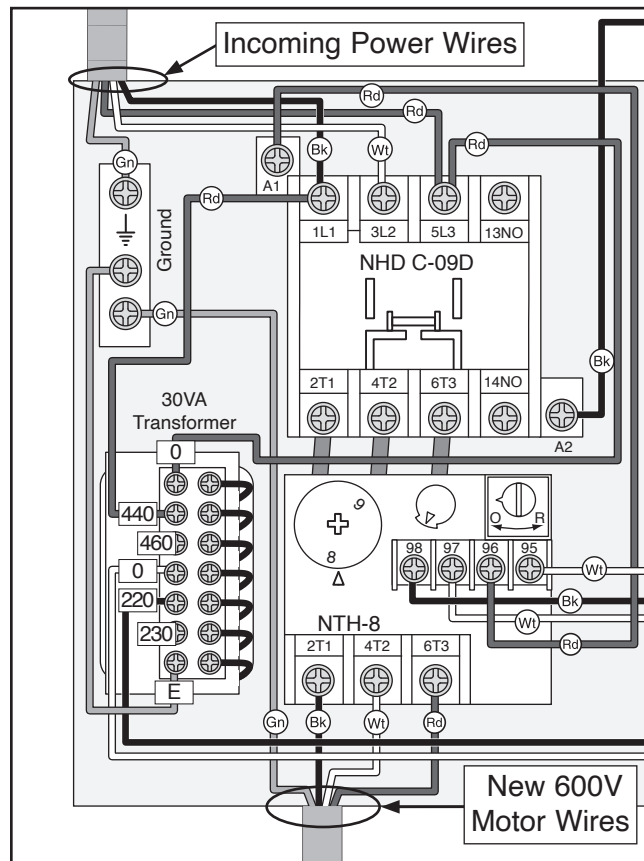

Figure 2. G0601 440V control box wiring.
2. Disconnect existing incoming power and 300V motor wires from the control box (use illustration in **Figure 2** for a general reference), then replace 220V control box with 440V control box. You can also refer to the **G0601 Wiring Diagrams** on **Page 53–53** for more complete wiring illustrations.
3. Connect four incoming power wires to the control box, as illustrated in **Figure 2**.
4. Connect new 600V motor cord wires to control box, as illustrated in **Figure 2**.